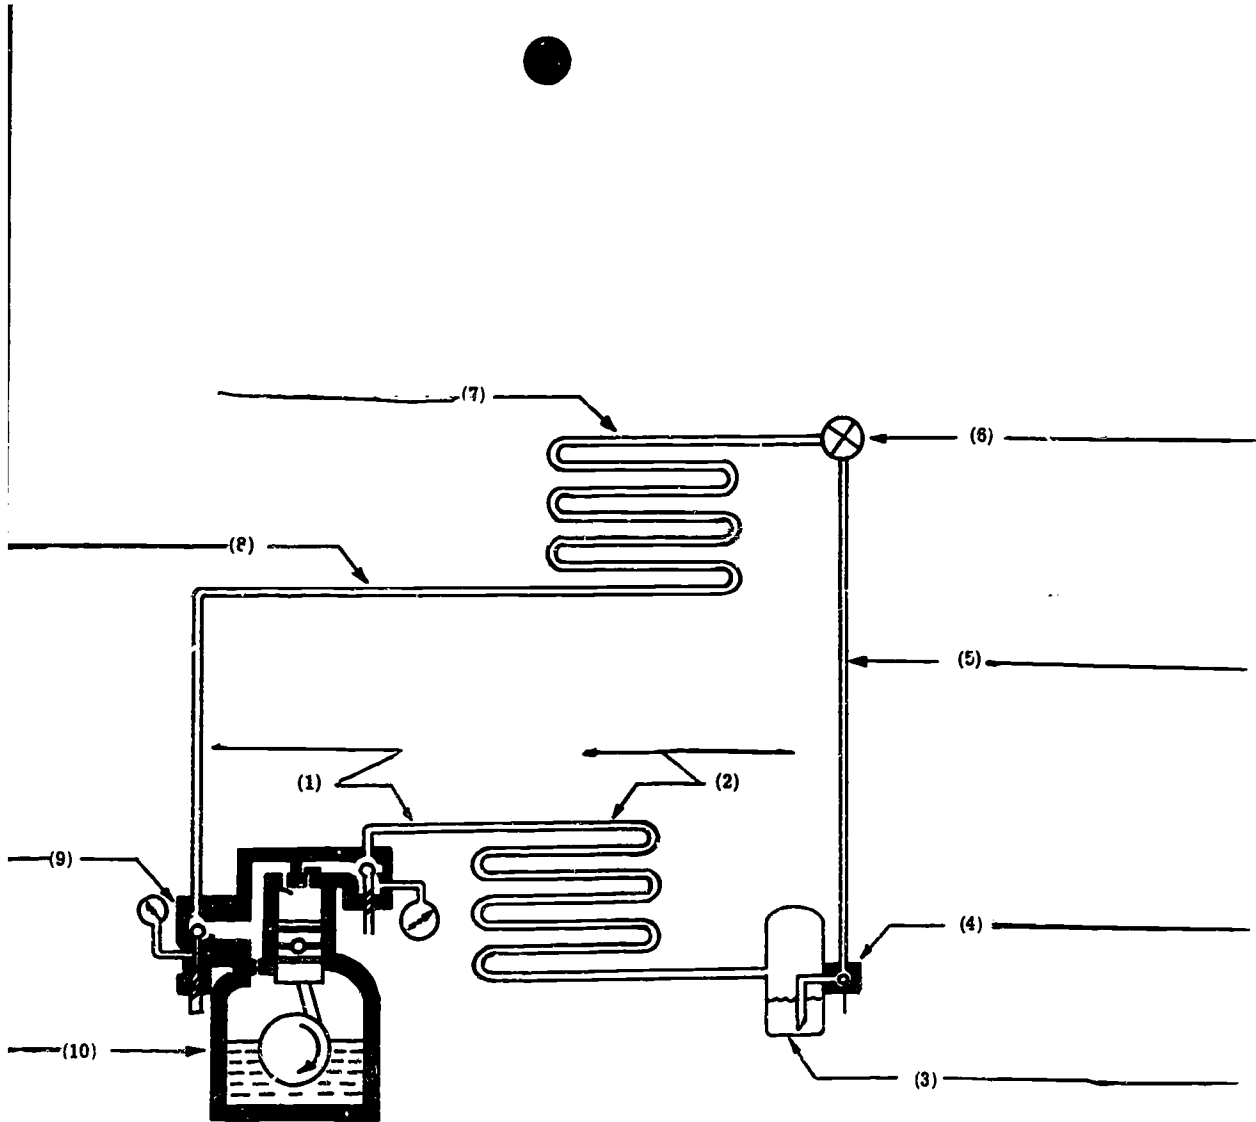

Figure 8
1. Study the arrangement of the components in Figure 8.